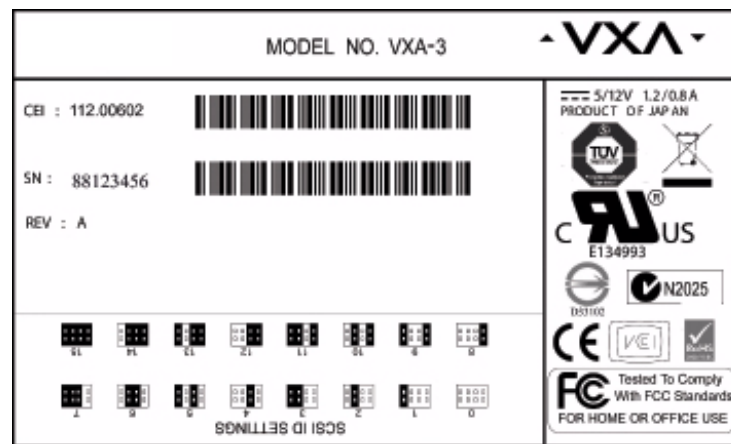

Figure 1-6 Top-panel label (SCSI tape drive)
- ▶ The top-panel label (Figure 1-6) shows the tape drive's part number, serial number, revision, connector type, and agency information.